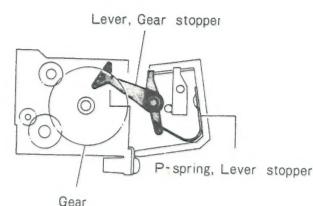

Fig. 21
6) Check to see if the P-spring (lever stopper) is properly set on the lever (gear stopper). (See figure 21)